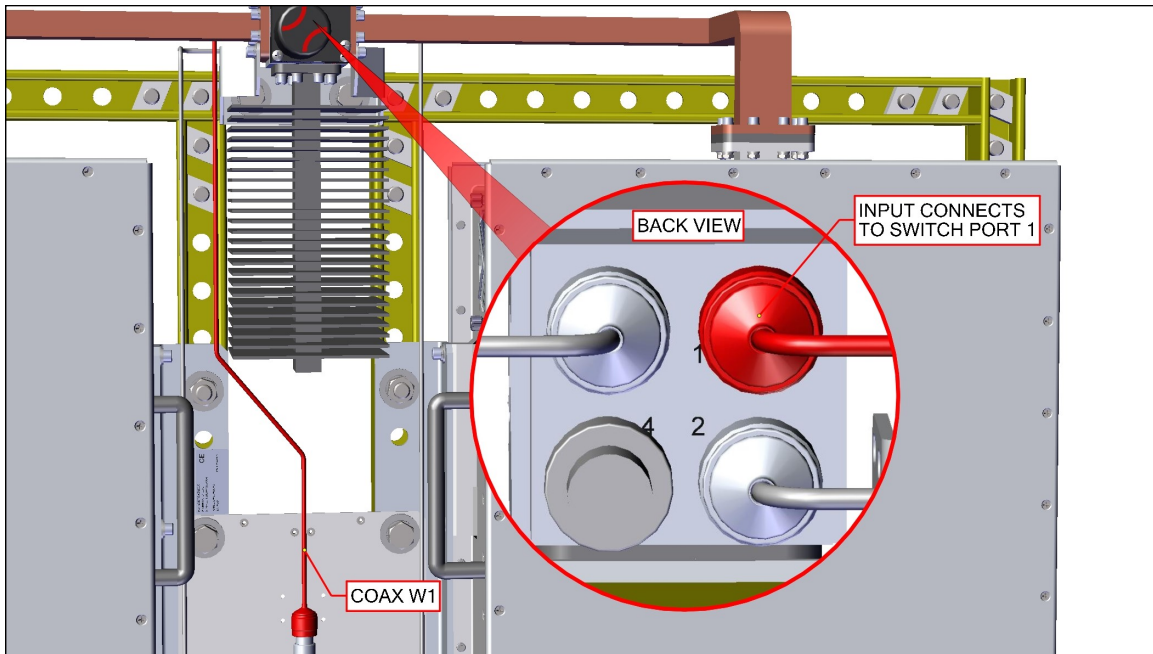
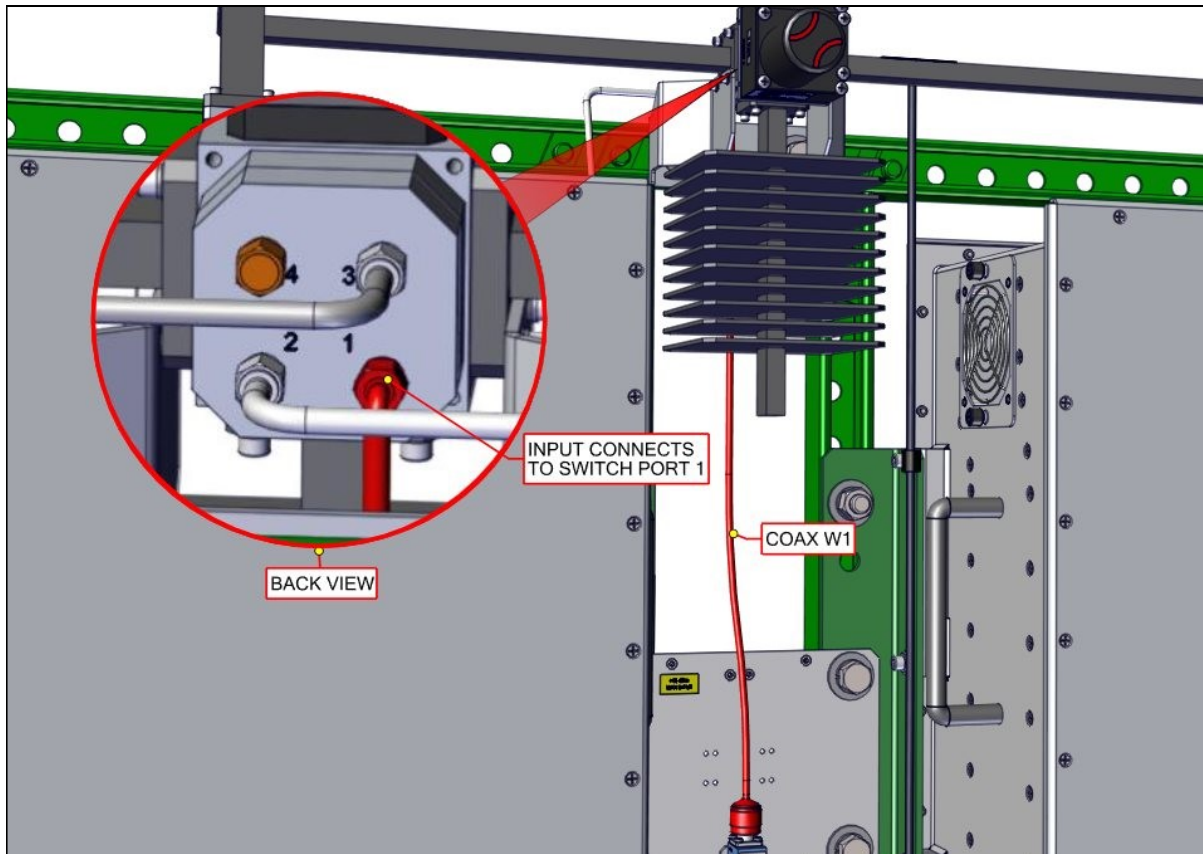

Figure 1-25: Connect Coax W1 to Input and Switch Port 1 (typical, C-Band)
Figure 1-26: Connect Coax W1 to Input and Switch Port 1 (typical, Ku-Band)
Connect the pre-formed semi-rigid coaxial cable labeled W1 between the N-type (F) connector at the input plate assembly and the N-type (F) connector at Switch Port 1. See **Figure 1-25** for a typical C-Band example, and **Figure 1-26** for a typical Ku-Band example.